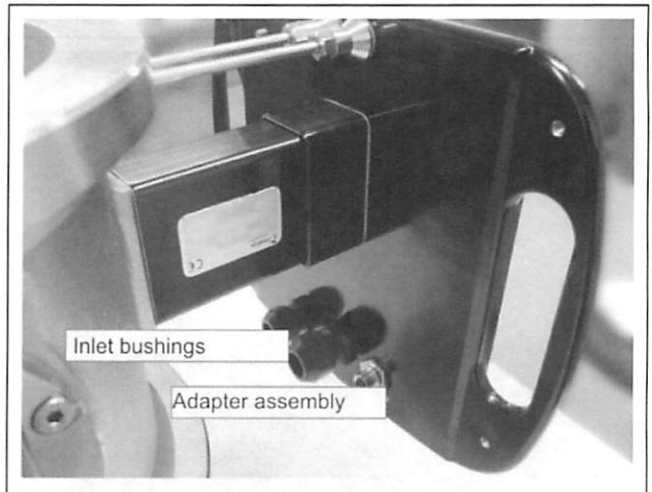

Fig. 9.
- Insert shield plugs PG16 and PG21 into the open inlet bushings (Figure 9).